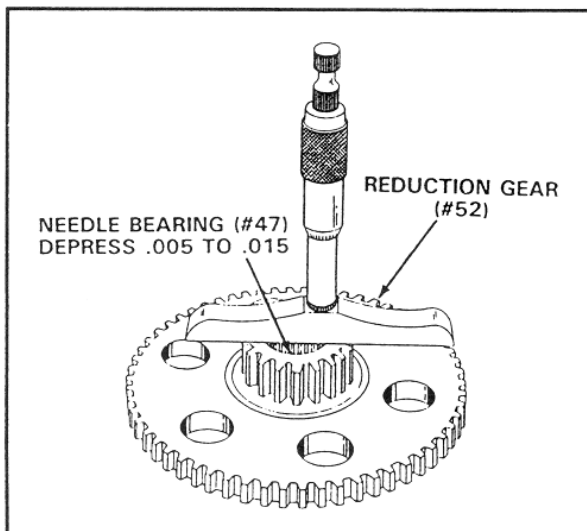

FIGURE 12
- 5.21 Needle bearing (#47) must be .005 to .015 depressed from 17 tooth face of reduction gear (#52). Use depth-mic as shown in figure 12.